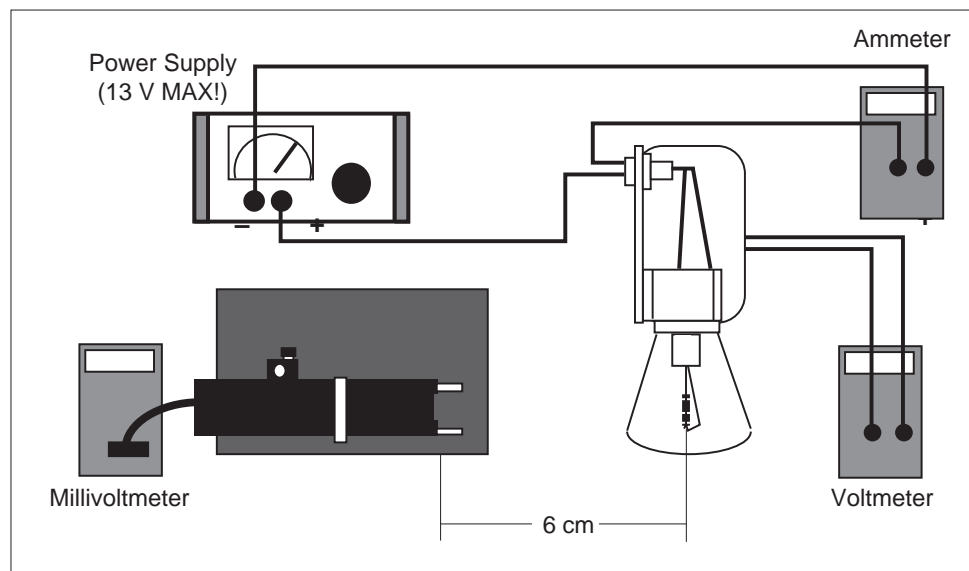

Figure 3.1 Equipment Setup
- ① **BEFORE TURNING ON THE LAMP**, measure T_{ref} , the room temperature in degrees Kelvin, ($K = ^\circ\text{C} + 273$) and R_{ref} , the resistance of the filament of the Stefan-Boltzmann Lamp at room temperature. Enter your results in the spaces on the following page.
- ② Set up the equipment as shown in Figure 3.1. The voltmeter should be connected directly to the binding posts of the Stefan-Boltzmann Lamp. The Sensor should be at the same height as the filament, with the front face of the Sensor approximately 6 cm away from the filament. The entrance angle of the thermopile should include no close objects other than the lamp.
- ③ Turn on the power supply. Set the voltage, V , to each of the settings listed in Table 3.1 on the following page. At each voltage setting, record I , the ammeter reading, and Rad , the reading on the millivoltmeter.